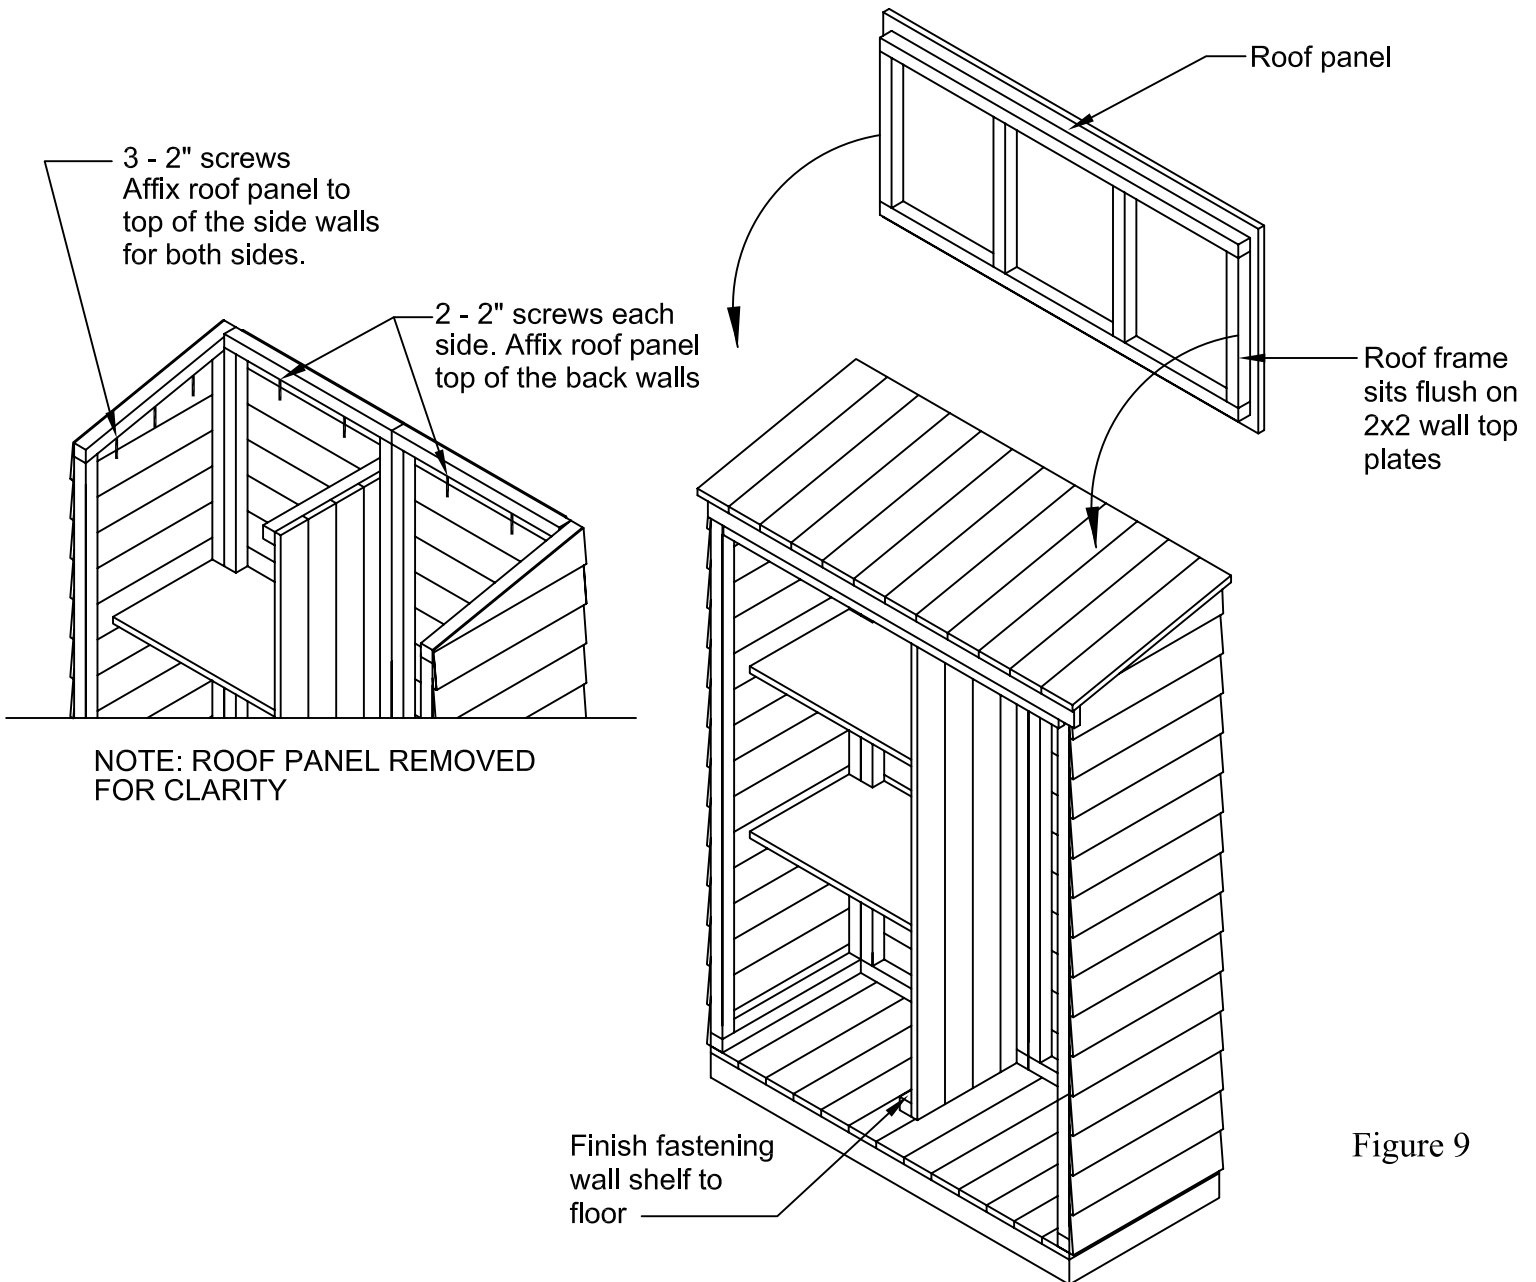

Figure 9
- Drop the roof unit into place. adjust its position by making sure the roof frame sits flush on top of the 2x2 framework of the walls. From the inside of the structure, secure the roof with 2" screws up through the wall 2x2 and into the roof frame (see Figure 9).